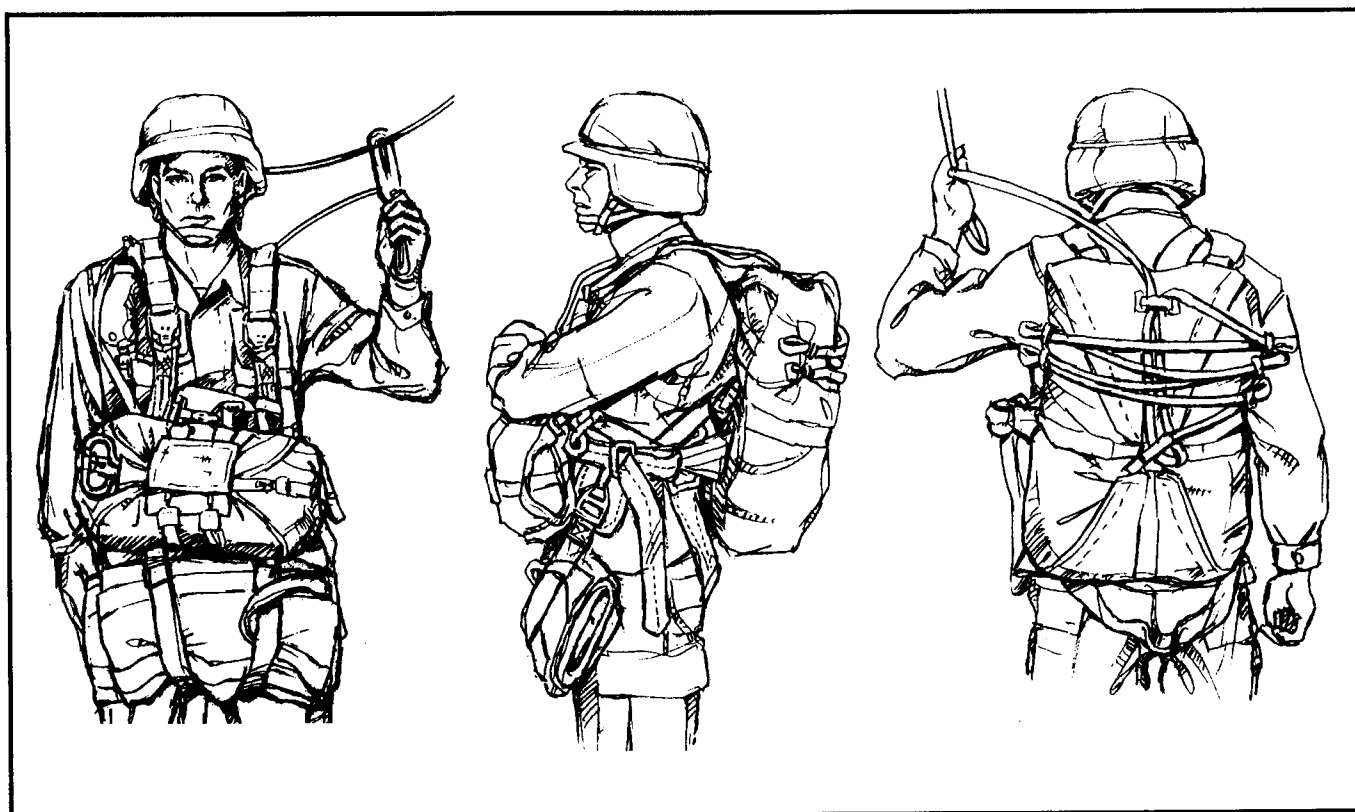

Figure 2-6. Troop parachute harness fitted.
(2) Lifts the pull-the-dot fasteners on the diagonal back strap retainer and frees the diagonal back straps from the sizing channel.
(3) Sizes the parachute to one of the six sizing channels (S, 1, 2, 3, 4, and L).
(4) Rechannels the diagonal back strap retainer and fastens the pull-the-dot fastener.
(5) Lets out about half of the slack in the horizontal back strap, leg straps, and chest strap; straightens the leg straps and chest strap; and folds the kit bag, leaving the outermost carrying handle extended.
STEP 6: Number 2 locates the free-running ends of the horizontal back strap and tightens the harness until number 1 indicates it fits snugly and comfortably. The horizontal back strap is the main point of adjustment for the harness. After final adjustment, number 1 should be able to stand fully erect without straining (Figure 2-6).